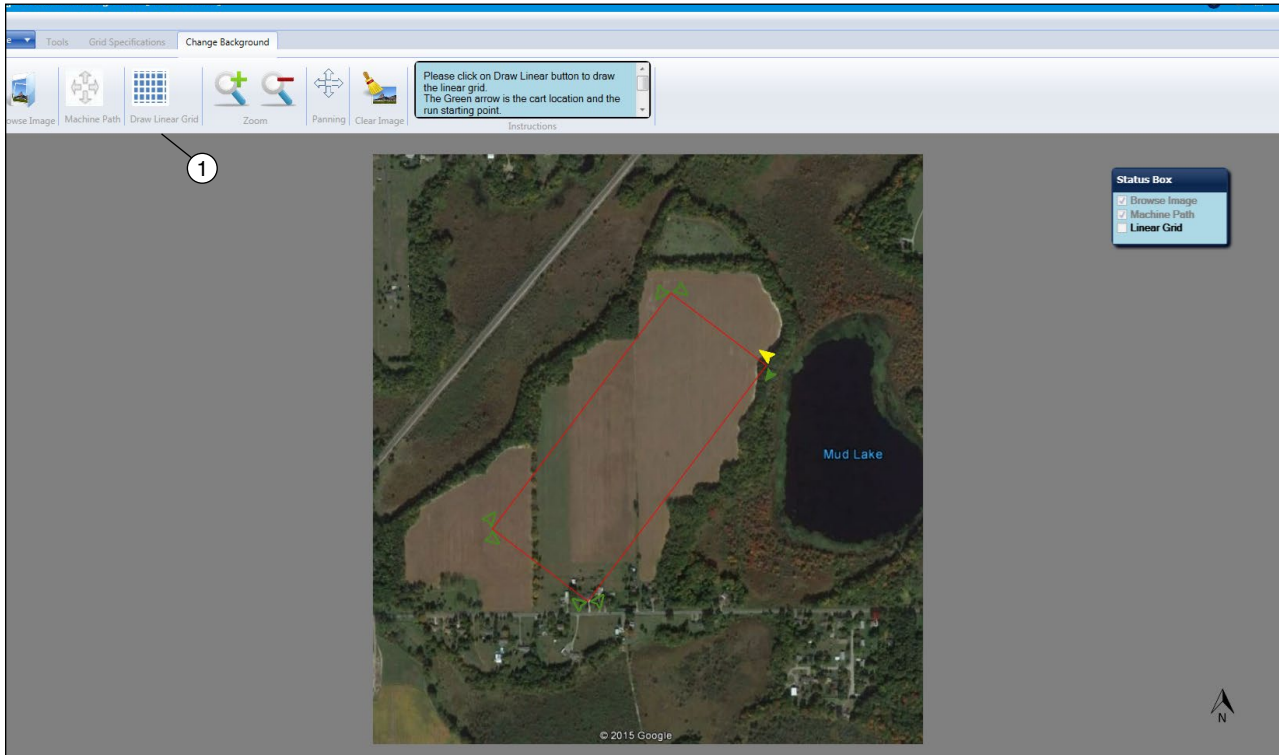

Figure 16-1 1. Draw Linear Grid
5. Click the **Draw Linear Grid** button. See Figure 16-1.